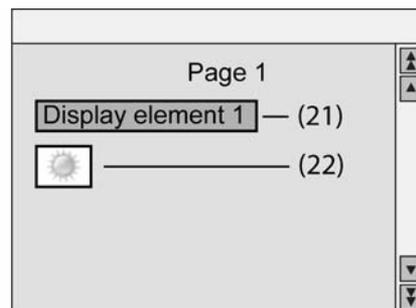

Figure 11: Types of display elements
- i** In addition to an element icon (Figure 11), a status icon can also be assigned to the display status values of the element (see following section "Display function"). It should be noted that, depending on the planned icon position, the element icons and status icons may overlap. In so doing, a status icon overwrites an element icon. A status icon also overwrites the display text of an element.